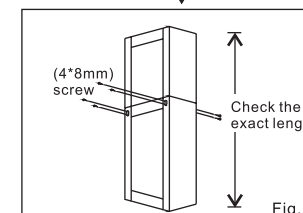

Fig.5
7. Make sure the above step 4, 5 and 6, then measure the exact length, slide the telescopic stack then fastened by 8 purchase screw (4×8mm) as provided. (Fig.5)